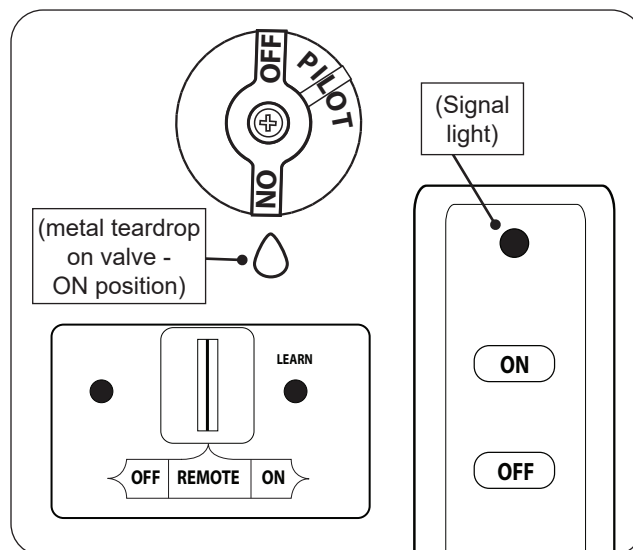

Fig. 29-1 Remote lighting
1. Ensure the pilot is burning. Turn the control knob counterclockwise ↺ to **ON** (see Fig. 29-1).
2. Locate the 3-position switch on the remote receiver, and slide the switch to **REMOTE** (see Fig. 29-1).
3. Locate the remote transmitter and press the **ON** button (see Fig. 29-1). The ignition sequence will begin.